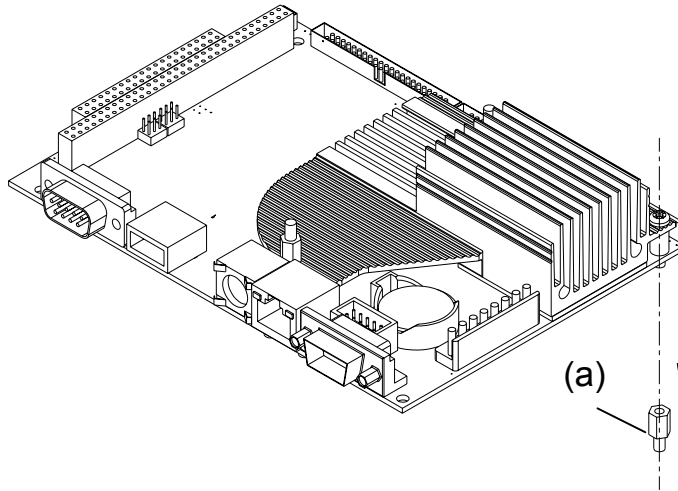

Figure 1.
1. Remove the pillar (a) from the SBC84600 as shown in Figure 1.